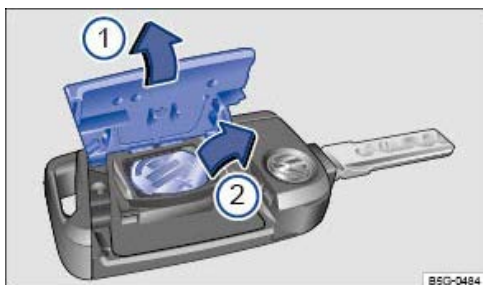

Fig. 67 Vehicle key: replacing the button cell.
Key to → *Fig. 67*:
- Remove the cover on the rear of the vehicle key with a suitable object → *Fig. 67* ① in the direction of the arrow → ⚠.
- Using a suitable flat object, lever the button cell out of the battery compartment → *Fig. 67* ②.
- Push the new button cell into the battery compartment in the opposite direction to that shown by the arrow → *Fig. 67* ② → ⚠.
- Push the cover onto the vehicle key housing in the opposite direction of the arrow until it engages → *Fig. 67* ①.